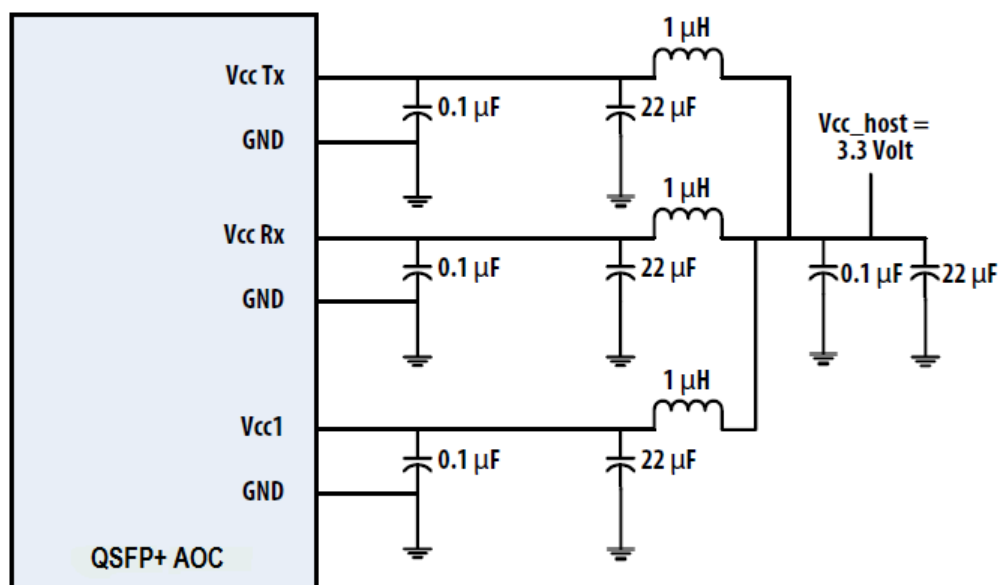

Figure 4. Recommended Power Supply Filter for QSFP28 Terminal
2. VccRx, Vcc1 and VccTx are the receiving and transmission power suppliers and shall be applied concurrently. Recommended host board power supply filtering is shown in Figure 4 below. Vcc Rx, Vcc1 and VccTx may be internally connected within the QSFP28 transceiver module in any combination. The connector pins are each rated for a maximum current of 1000mA.